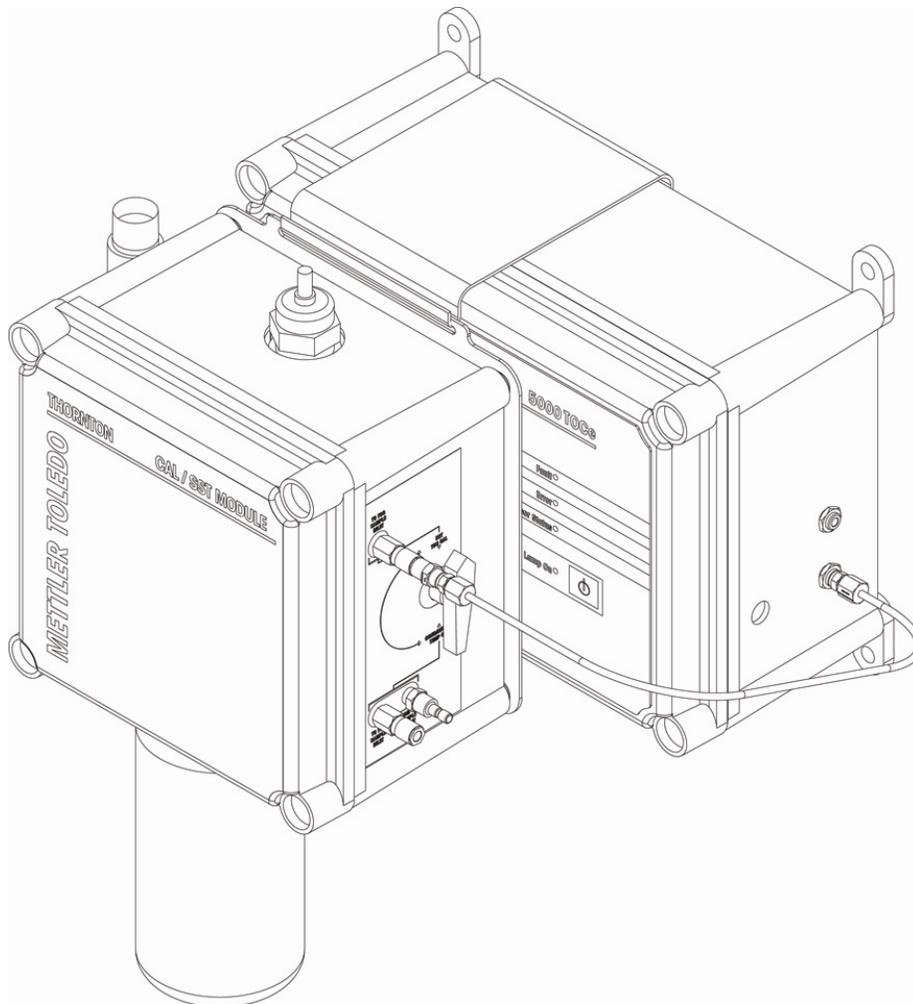

Figure 1. CAL/SST Pump Module Installation and Setup
1. Remove the mounting bracket from the carrying case and place on top of the 4000TOC Sensor to be tested. See Figure 1.
5. Set selector valve on CAL/SST pump module to "SST/TOC CAL" position. Figure 1 shows the proper installation of the CAL/SST pump module.